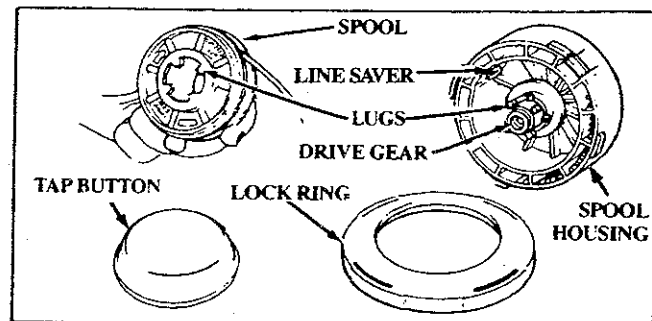

Figure 17
- b. Remove the lock ring, tap button, and spool. Figure 17.
NOTE: After a groove is worn into one side of the aluminum line saver, the line saver can be turned upside down and reinstalled (with the spool removed) to provide a new wear surface. Figures 17 & 18.